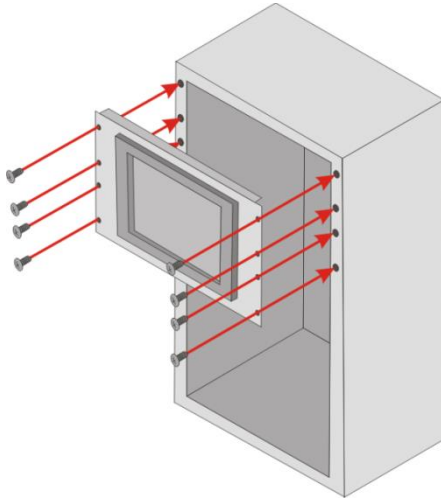

Figure 3-37: Install DM-F19A into a Rack/Cabinet
Step 3: Slide the LCD monitor with the attached rack/cabinet bracket into a rack or cabinet (**Figure 3-37**).